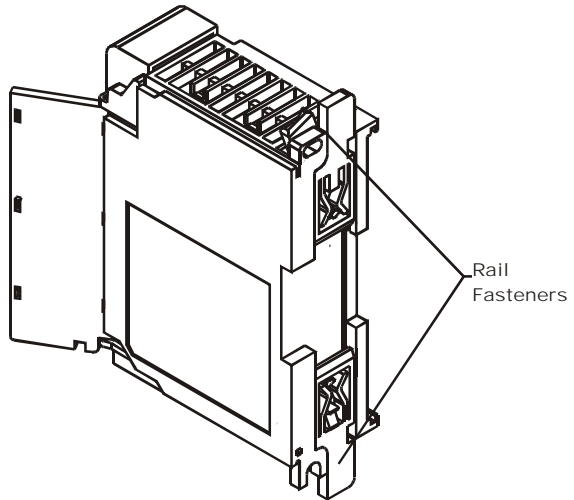

FIG. 3-6 RAIL FASTENERS IN RETRACTED POSITION
- Step 1. Pull the two DIN rail fasteners out until they snap into the open position. (See Fig. 3-6)